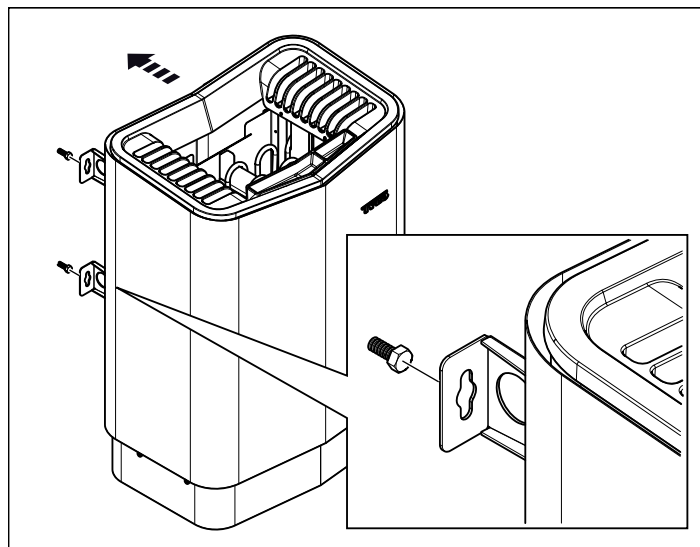

Figure 12: Hang the heater up.
11. Hang the heater on the screws see Fig. 12.